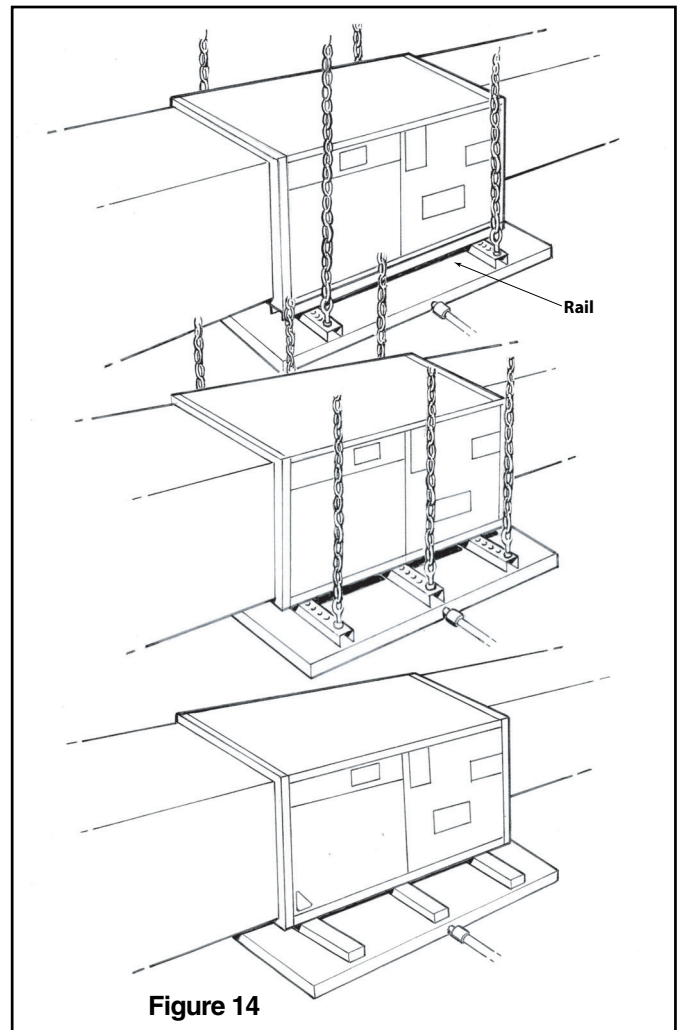

Figure 14
- e. If the unit is suspended, it must be supported from the bottom near both ends as well as the middle to prevent sagging. The service access must remain unobstructed. If the unit is supported along the length of the front and back with rails, the air handler only needs to be suspended at both ends. See Figure 14.
- c. If the unit is suspended, it must be supported from the bottom near both ends as well as the middle to prevent sagging. The service access must remain unobstructed. If the unit is supported along the length of the front and back, the air handler only needs to be suspended at both ends. See Figure 14.